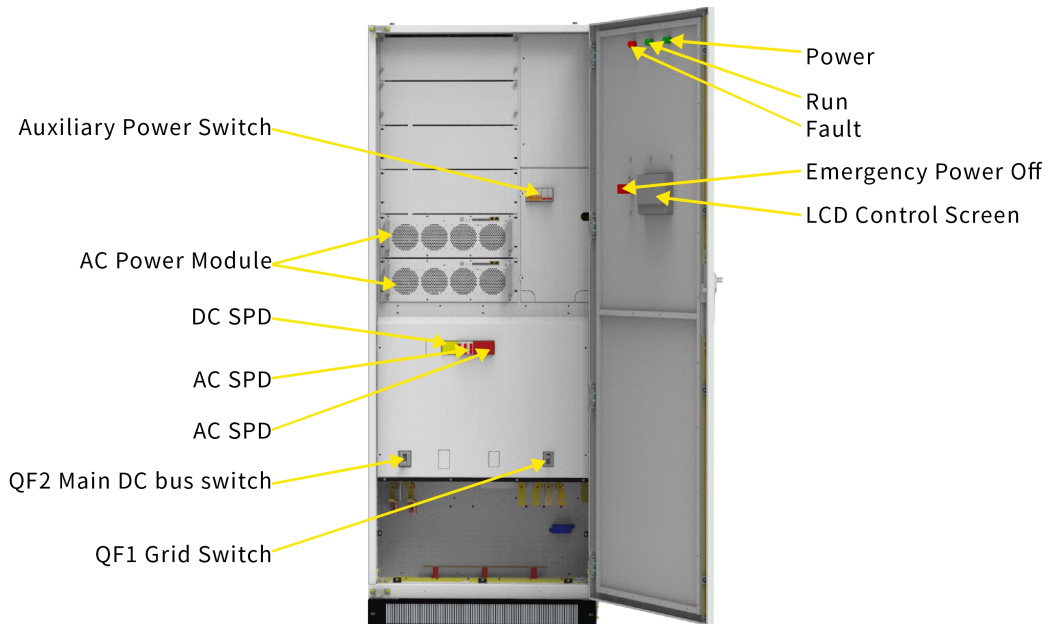

Figure 4-1 Distribution switch location diagram
(2) Grounding Inspection: The cabinet has a grounding point, and the grounding is secure; the grounding conductor inside the cabinet is reliably connected to the cabinet's grounding copper bar.
(3) Cable Inspection:
- (4) Copper row inspection: no obvious cracks or deformation of copper rows, fastening of screws at the lap joints, no misalignment of scribed markings, and no debris on the copper rows.
- (5) Component inspection: Referring to Figure 4.1, the circuit breakers are all in the open position.
- (1) Use a multimeter to confirm that the grid voltage is within the predetermined range .
- (2) Referring to Figure 4.1, QF1 AC moulded case switch and auxiliary power switch MCB1.
- (3) Close QF2 DC switch.
- (4) Confirmation of normal display and no fault alarms.
- (5) Set the converter parameters in 'System' -> 'Parameter Setting' interface, and select the required operation mode in 'System' -> 'Operation Mode' interface. Select the required operation mode in 'System' -> 'Operation Mode' interface.
- (6) Enable all modules in the "Switch" page of the touch screen, and click "Converter on" to complete the power-on.
- (1) Click on the 'Switch' interface of the touch screen and click on 'System Shutdown', and wait for the converter to stop running.
- (2) Refer to Fig. 4.1, switch off the converter auxiliary switch MCB1.
- (3) Switch off the main AC circuit breaker QF1 and DC switch QF2.
- (4) Wait for the end of bus discharge, the touch screen goes out, and the equipment completes shutdown.
- (1) Press the emergency shutdown button "EPO".
- (2) Referring to Figure 4.1, breakout converter auxiliary switch MCB1.
- (3) Tap main AC circuit breaker QF1, tap DC switch QF2.
- (4) Reset the EPO button after determining that the fault or hazard is cleared and operation is required.
- 1、 Converter on: First of all, check the power-up situation of the whole machine, refer to Fig. 4.1 to close the QF1 AC molded case switch and auxiliary power switch MCB1.